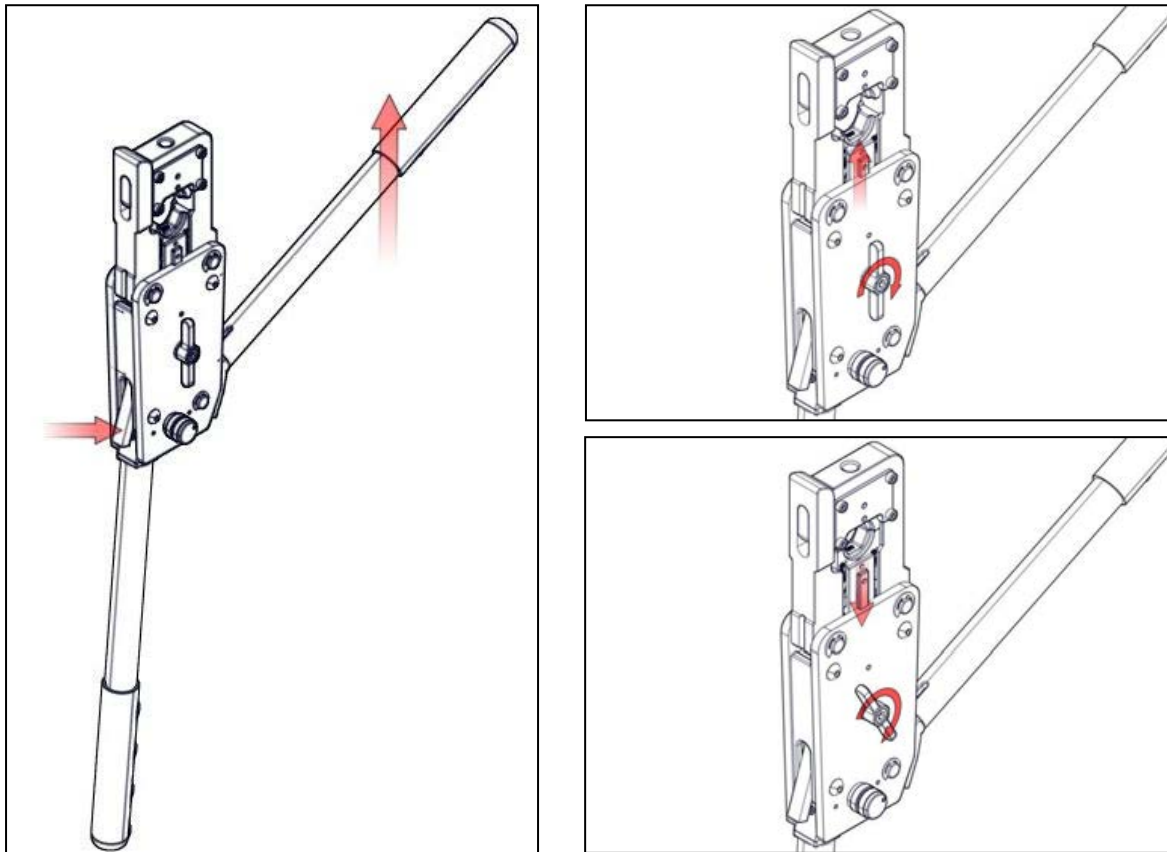

Figure 4. Operate Advance/ Return quickly
(3) Ensure the tool quick advance and return is working. See Figure 4.